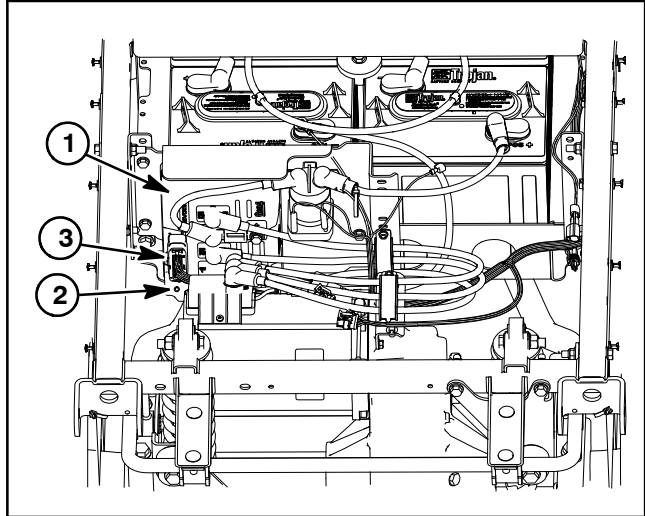

Figure 36
The Workman controller is secured to the rear frame beneath the cargo box (Fig. 36). The controller uses inputs from several vehicle components to accurately control vehicle speed, direction (forward and reverse) and regenerative braking. Controller inputs include key switch, direction selector switch (forward/reverse), accelerator pedal, supervision speed limit switch, traction motor thermistor (temperature), traction motor encoder (speed sensor) and battery charger lockout. A single wire harness connection and five (5) cables are used to connect the controller to the vehicle electrical system.